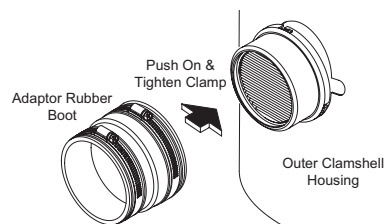

Figure 13. Adaptor Rubber Boot
- To connect heater to the air inlet, use the vent adaptor rubber boot provided in the base skirt. The adaptor rubber boot is designed for 3" venting (Figure 13).